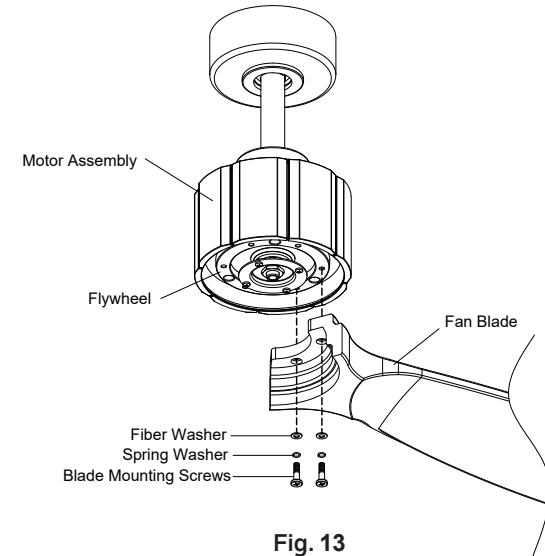

Fig. 13
Step 1. Attach the blade to the fan motor assembly using two fiber washers, spring washers and blade mounting screws (Fig. 13)
Repeat for the remaining fan blades. (Fig. 13)